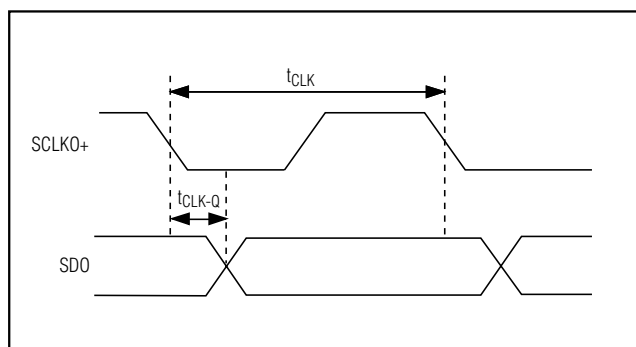

Figure 3. Definition of Clock-to-Q Delay
**Note 10:** Relative to the falling edge of the SCLKO+ (Figure 3).